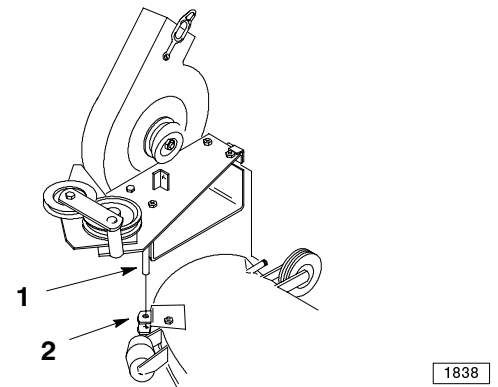

Figure 34
2. Remove the blower by lifting the pivot pin out of the pivot support (Fig. 34).